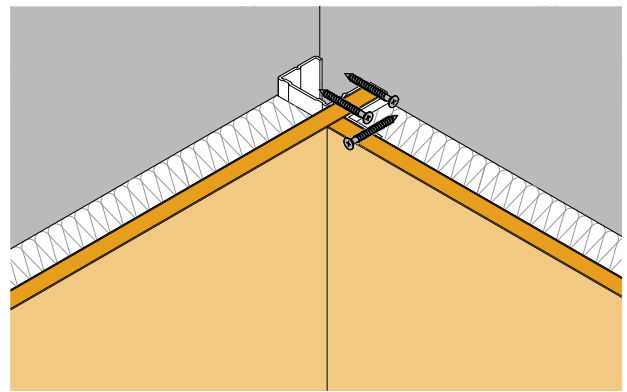

FIGURE 27: Corner detail
9. Use an upright with an L-profile, near the end upright, to build/reinforce the corners. (fig. 27)